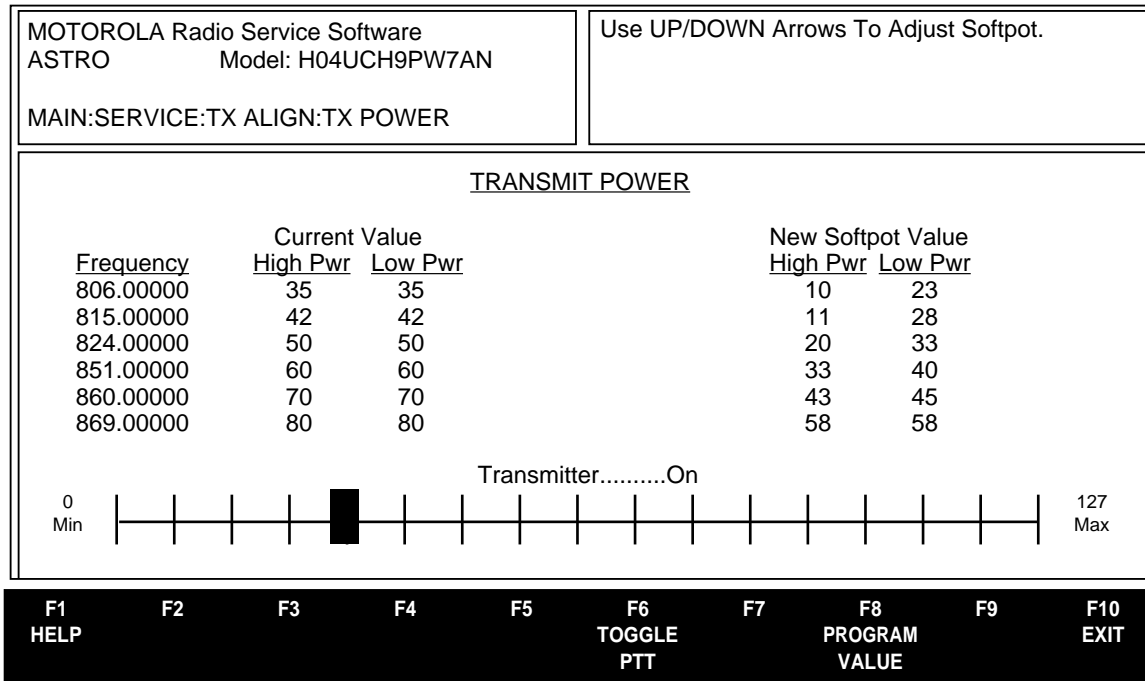

Figure 5. Transmit Power Alignment Screen
2. Press **F3** to select the TRANSMIT POWER alignment screen. The screen will indicate the transmit frequencies to be used. See Figure 5.